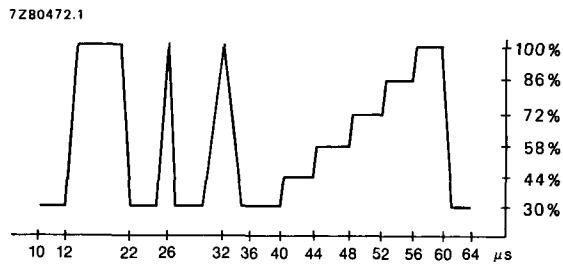

Fig. 9 E.B.U. test signal waveform (line 330).
7. Measured according to the test line shown in Fig. 9: